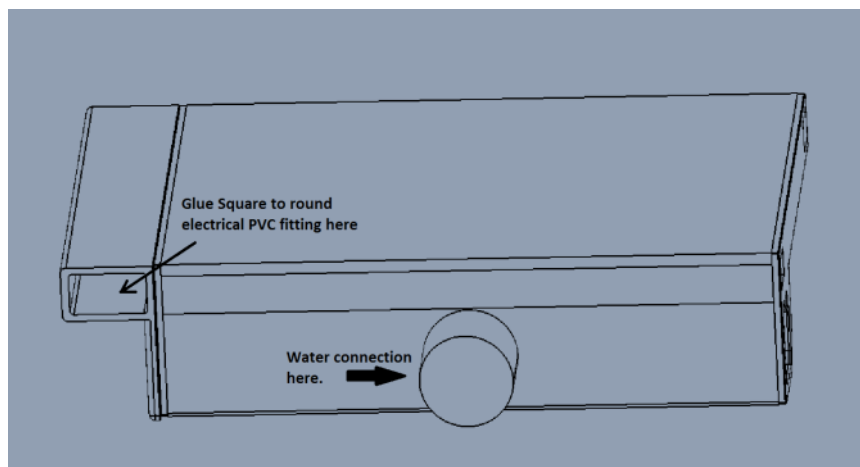

Figure 5: PVC Conduit on both ends
When preparing for electrical installation, the Brilliant Wonders Waterfall is capable of accommodating conduit on either side (Figure 5). Choose which side to install the electrical PVC pipe. Refer to section 3.1.5 if you are planning on changing the electrical output side. Before securing the waterfall completely, glue the Adapter PVC fitting (D) to the back of the waterfall side to where the electrical connections will be made with PVC glue. Gently tap the square plug (E) with a rubber mallet into the back of the opposite side for sealing.